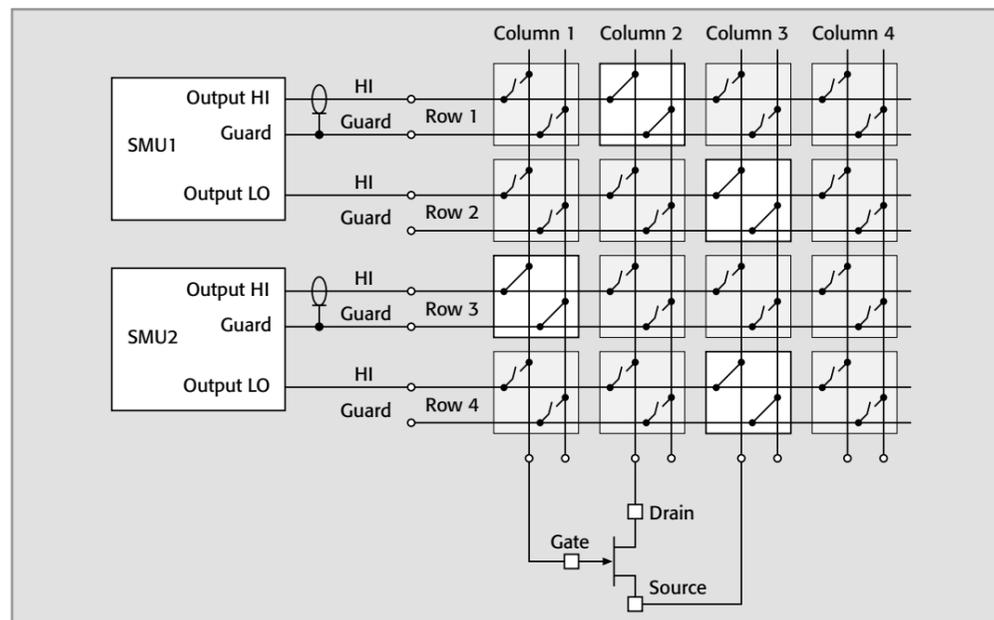

Figure 16. Using two SMUs to test a FET
**Figure 16** shows two independent SMUs with the Output LO terminals connected to separate rows. Note that each pin of the device under test, the FET, is connected to a single *column*. The guard terminals of the matrix card are not connected to the device. To connect the SMUs to the transistor, close *crosspoint* Row 1/Column 2 to connect SMU1 to the drain, Row 3/Column 1 to connect SMU2 to the gate, and Row 2/Column 3 and Row 4/Column 3 to connect both SMU Output LO terminals to the source terminal of the FET.